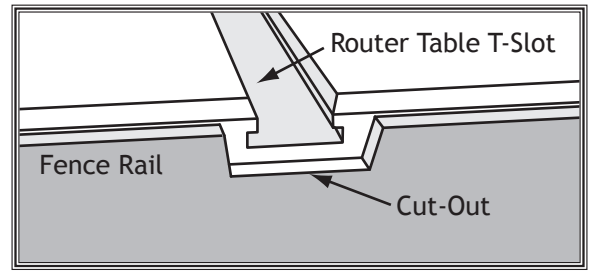

Figure 7. Illustrated example of a fence modification.
- If you have long fence rails that will extend beyond the T-slots of the router table, you will have to modify the top of the rails. This entails making a cut-out that matches or exceeds the dimensions of the router table T-slot, as shown in the illustration in **Figure 7**.